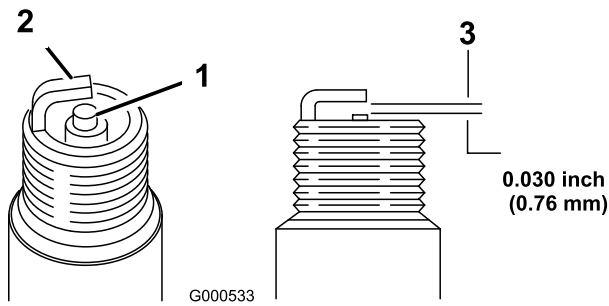

Figure 23
- Set the gap on the plug to 0.030 inch (0.76 mm) (Figure 23).